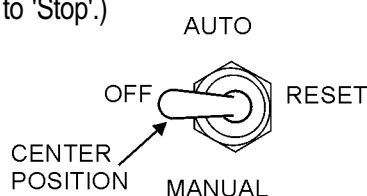

Figure 42. Off/Manual Auto Switch (OFF)
4. Place the Off/Manual/Auto Switch (Figure 42) in the "OFF/RESET" position (For S/N3697060 to S/N3698949-Turn the key switch to 'Stop'.)